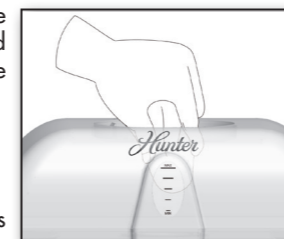

Figure 5.
5. Rinse the tank thoroughly with water, empty, and wipe with a dry, clean cloth. Figure 5.